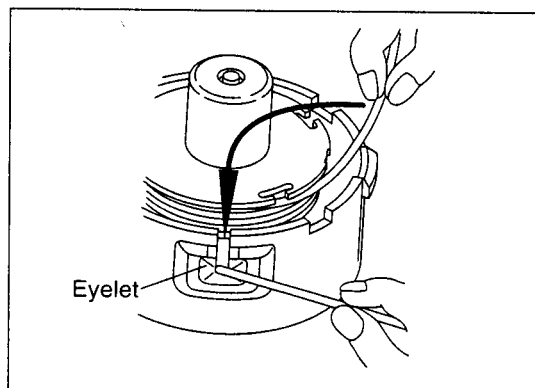

Fig. 27
5. Mount the spool in the housing so that the grooves and protrusions on the spool are aligned with those in the housing (Fig. 27).
6. Unhook the ends of the cord from their temporary position and feed the cords out through the eyelets in the side of the housing (Fig. 27).